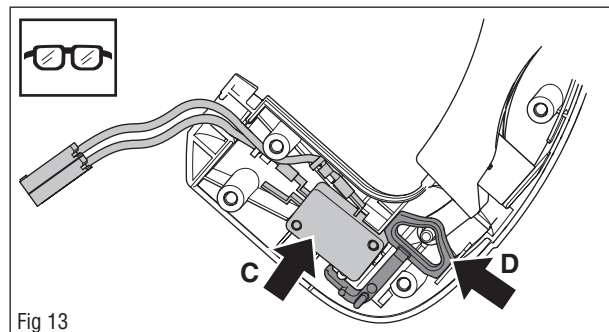

Fig 13
Place the relay with cables (D) and the loop (E) in the handle. See figure 13.